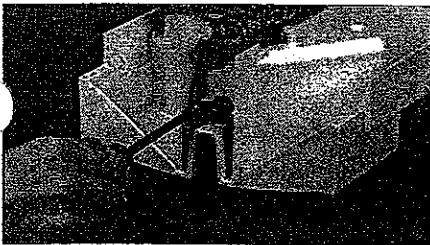

Figure 81
2. Place the transducer cap onto the transducer. Install the two (2) 6-32x3/8" Phillips pan-head screws and attach the transducer/cap to the front enclosure as illustrated in Figure 81. Ensure that the transducer cable will not get pinched when the rear enclosure is attached.